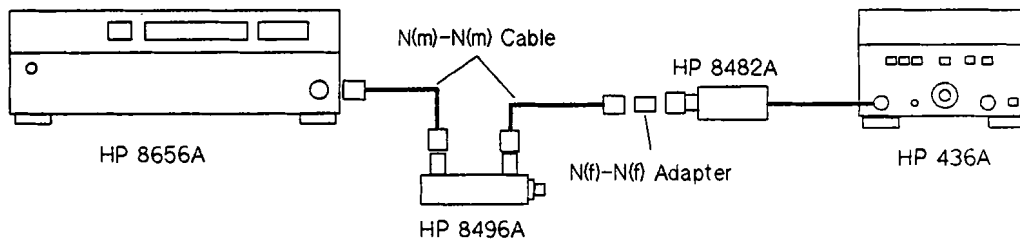

Figure 2-3. Amplitude Measurement Accuracy Test Setup
3. Configure the test setup shown in Figure 2-3. The N(m)-N(m) cable must be connected between the Step Attenuator and the Power Sensor with the N(f)-N(f) Adapter.